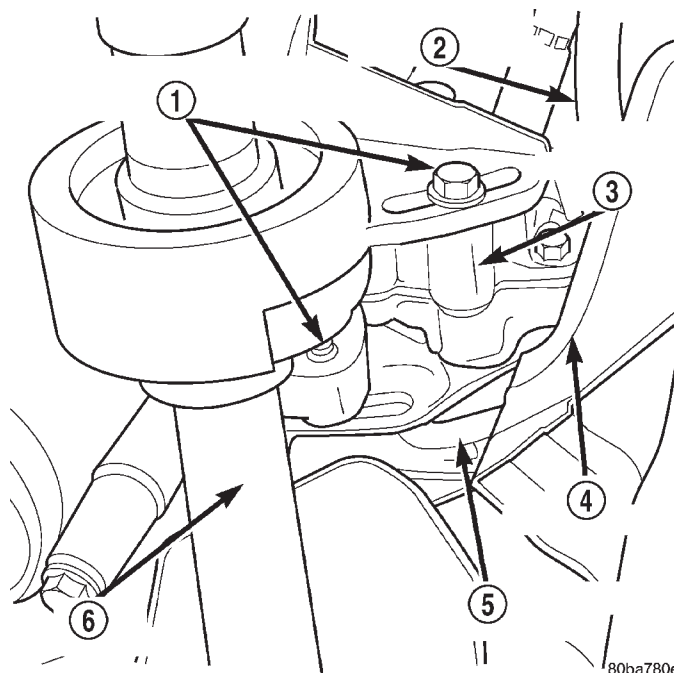

Fig. 2 Power Steering Pump — Position & Orientation
(1) Transfer the mounting bracket and pulley to the new pump.
(2) Position the pump assembly and install the (2) bolts in the adjustment slots (Fig. 2). Leave them loose at this time.